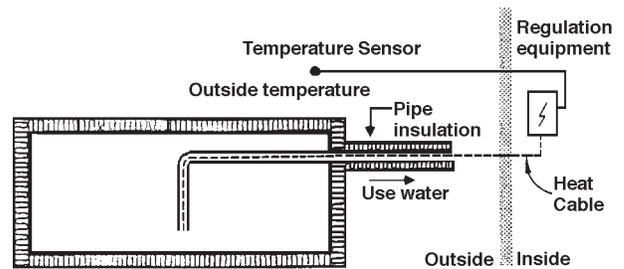
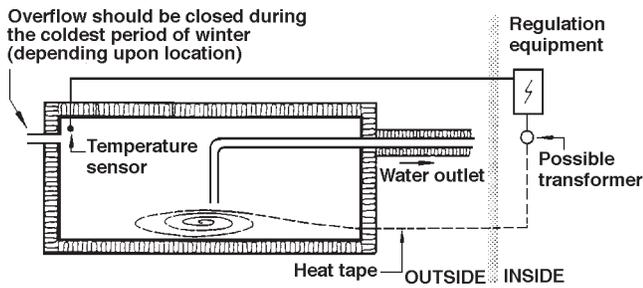

Figure 314
Figure 315
**314** In maritime coastal climates there are often large variations in temperature during the winter. With a large, insulated, year-around cistern, the stored heat in the water will often be sufficient to prevent freezing during a short cold period. If the cold period is prolonged, freezing will usually start at the coldest surfaces. By placing the intake a bit above the bottom of the cistern, longer frost-free operation can be maintained. The intake pipe should be insulated and heated with a heat tape. The heat tape can be threaded inside the pipe or wrapped around it. If thermostatically controlled, 2 to 4 watts per meter might be sufficient. If the heat tape itself can be frozen, then freezing can take place, and the heat tape can be used as a thaw cable. This type of heat tape can be operated manually and should have a capacity of 25 watts per meter. See Figure 314. In a well-insulated installation thawing will take about 30 minutes. The electricity must be shut off after thawing to avoid overheating.
**315** Heating with a thermostatically controlled heat tape will afford good protection against freezing. The tape is placed in loops on the tank bottom and intake and wired to an automatic thermostat that will turn on at the appropriate temperature (Figure 314 and 315). A well-insulated cistern will need heat tape with a capacity of about 10 watts per square meter of surface. There are two main types of heat tape. Traditional cables have a fixed resistance per length. If the electricity is used directly, the cable can be used in a fixed length. If a change in length is desired, use a transformer. There are also self-regulating cables that can be cut to the desired length without changing the heating capacity. The heating increases with a decrease in temperature in such cables. The temperature sensor is placed inside the cistern and the tape will operate whenever the temperature is below freezing (Figure 315).